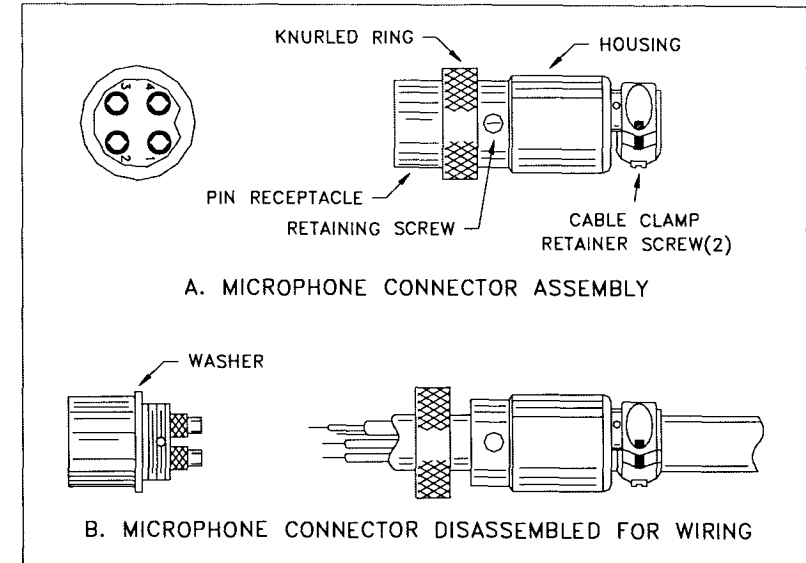

Fig. 2 Microphone plug wiring
4. Feed the microphone cable through the housing, knurled ring as shown Figure 2.